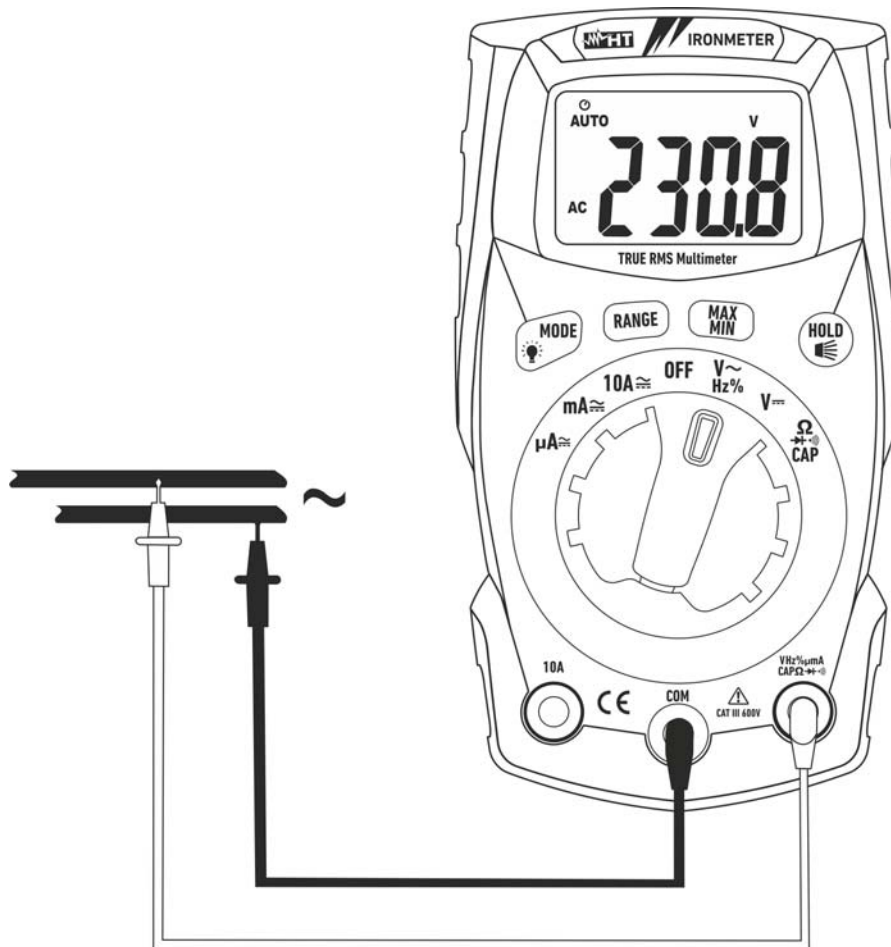

Fig. 4: Use of the instrument for AC voltage measurement
3. Position the red lead and the black lead respectively in the spots of the circuit to be measured (see Fig. 4). The display shows the value of voltage.